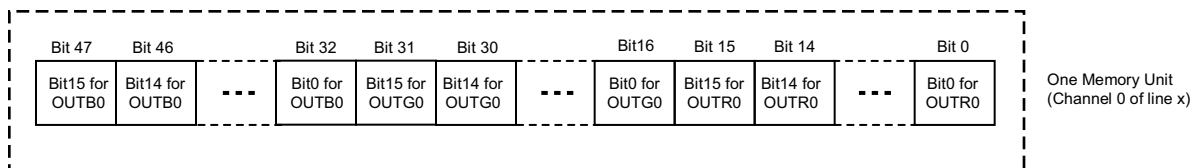

Figure 10. Bit Arrangement of One Memory Unit
Each BANK contains all the GS data of 32 scan lines. Each line is comprised of sixteen 48-bits-width memory units. Each unit contains the R/G/B grayscale (GS) data of one channel. For example, the memory unit for channel 0 contains 16-bit GS data for OUTR0, 16-bit GS data for OUTG0, and 16-bit GS data for OUTB0. Figure 10 shows the bit arrangement of this memory unit. In this example, bit 32–47 contain the 16-bit GS data for OUTB0 (pin 10 of the IC) for line x.